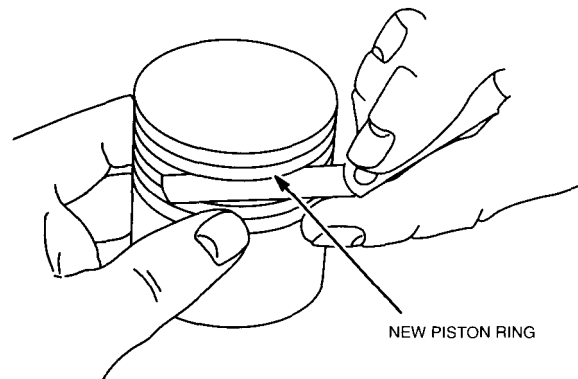

**Fig. 2 - Remove Piston Pin Locks**
2. Disassemble piston from connecting rod, Fig. 2.